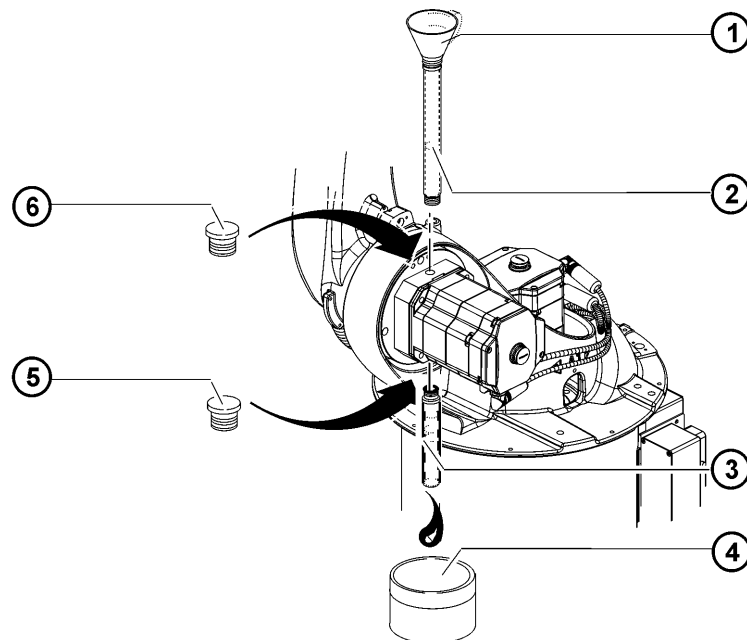

Fig. 9-3: Oil change on axis 2
1. Place a suitable receptacle under the oil drain hole (>>> Fig. 9-3).
1. Screw in the hose at the top (>>> Fig. 9-3).